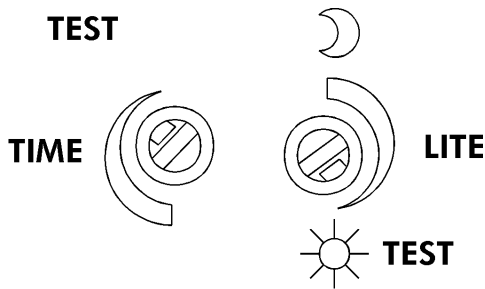

FIGURE 7
(1) TEST MODE
- Turn the Motion Sensor Lite control and the Time control clockwise to the edge – the TEST position (FIGURE 7).